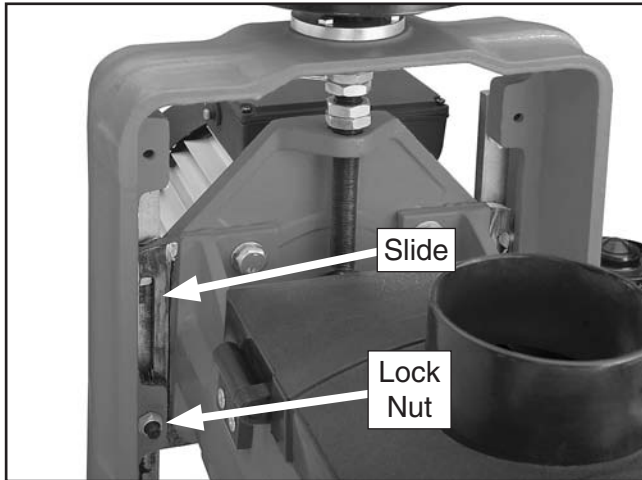

Figure 32. Location of rear slide and lock nut.
The gibs apply pressure to the slides of the sanding head (see **Figures 32–33**). This allows the sanding head assembly to accurately move up and down when using the elevation handwheel.
2. Loosen the center lock nut on both gibs (see **Figure 32**).